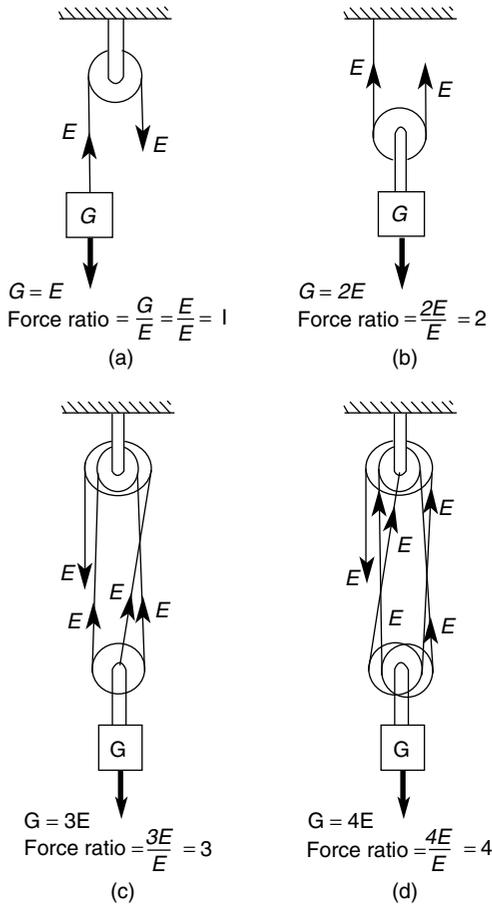

Figure 36
Figure 36 (a), (b), (c) and (d) illustrates various arrangements of lifting tackle (rope falls) raising a load G by exerting an effort E . In each case the effort is transmitted throughout the lifting rope, giving rise to increasing values of force ratio. (The effects of friction are ignored.)
Determine the load which (ignoring friction) could be raised by exerting an effort of 50 kgf using each of the arrangements illustrated in Figure 36.
16. A load of 275 kgf is to be raised using rope falls as illustrated in Figure 36, page 71. Determine the effort required using each of the arrangements (b), (c), and (d). (Ignore friction.)
17. An effort of 85 kgf is applied to each of the arrangements in Figure 36(b), (c), and (d), page 71. Ignoring friction, determine the load which could be raised in each case.
18. A motor and gear unit weighing 450 kgf is to be raised through a vertical distance of 2.5 m. It is proposed to use an inclined plane 4 metres long and a set of rope falls as in Figure 36(d). Ignoring friction, determine the effort required.